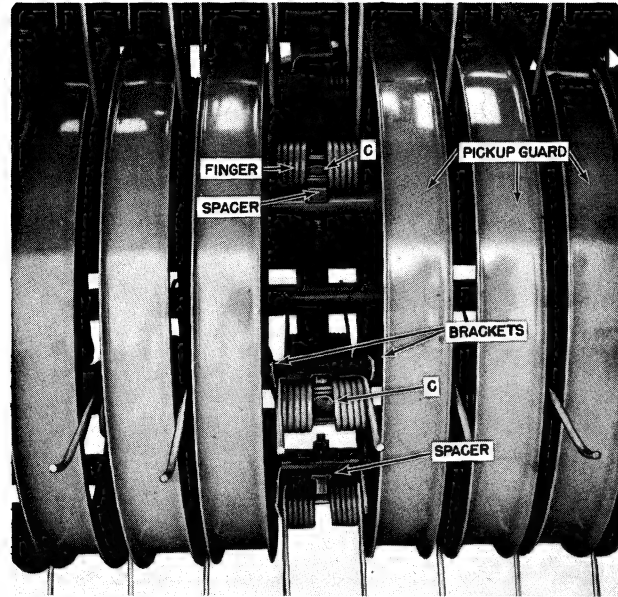

FIGURE 77
Figure 77 shows the attachment of the pick-up finger to the pick-up tooth pipe on the pick-up.
1. Remove the four cap screws holding the pick-up guard, and remove the pick-up guard as shown in Figure 77.
4. Install the brackets and spacer, as shown in Figure 77, with the new pick-up finger.
5. Install the three parts as a unit with the mounting bolt, C, as shown in Figure 77.